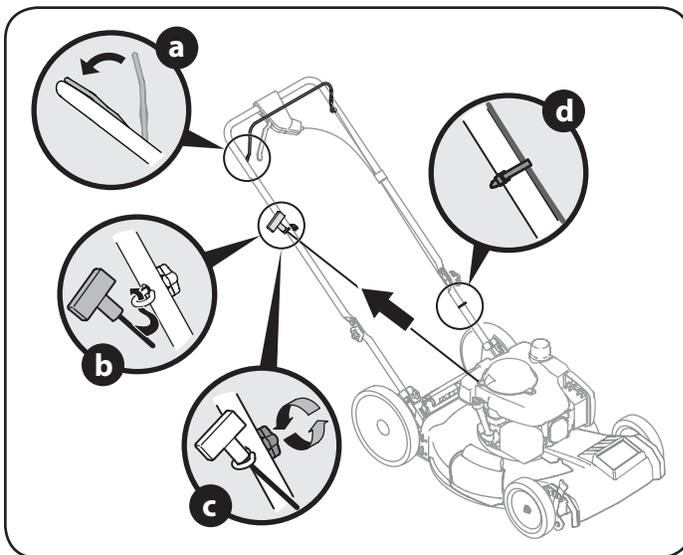

Figure 6
- b. Slowly pull starter rope handle from engine and slip starter rope into the rope guide. See Figure 6.
- d. Use cable ties provided to secure blade control and drive cables to lower handle as shown in Figure 6.
- 4. The rope guide is attached to the right side of the upper handle. Loosen the wing knob which secures the rope guide. Refer to Figure 6.